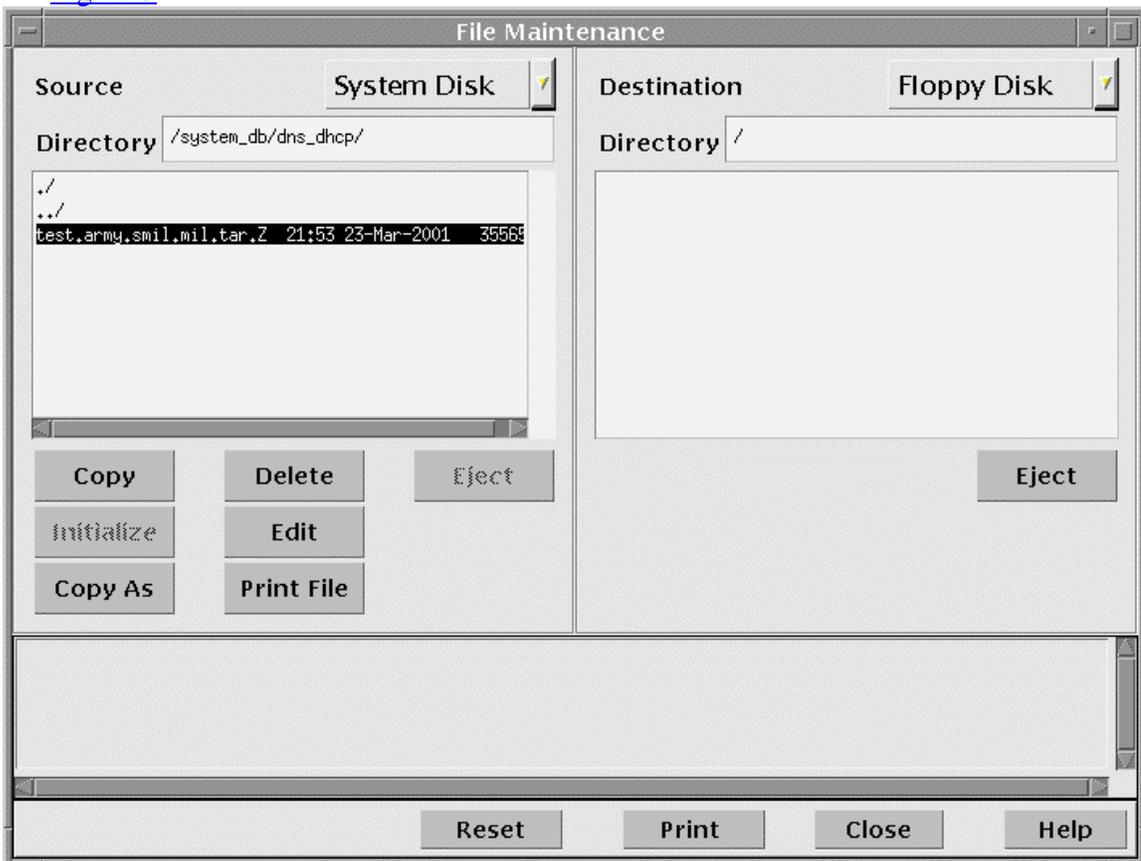

Figure 5 – File Maintenance
12. Double-click on **dns_dhcp/**. The contents of the directory will appear. See Figure 5.
34. Under Source select the **Floppy Disk**. Ensure that under Destination the **System Disk** is selected. See Figure 5.
59. Ensure that under Source, the left side, the **System Disk** is selected. See Figure 5.